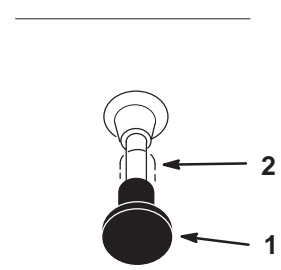

Figure 12
4. Move the choke control to the On position before starting a cold engine (Fig. 12).
7. After the engine starts, move the choke to Off (Fig. 12). If the engine stalls or hesitates, move the choke back to On for a few seconds. Then move the throttle lever to the desired setting. Repeat this as required.